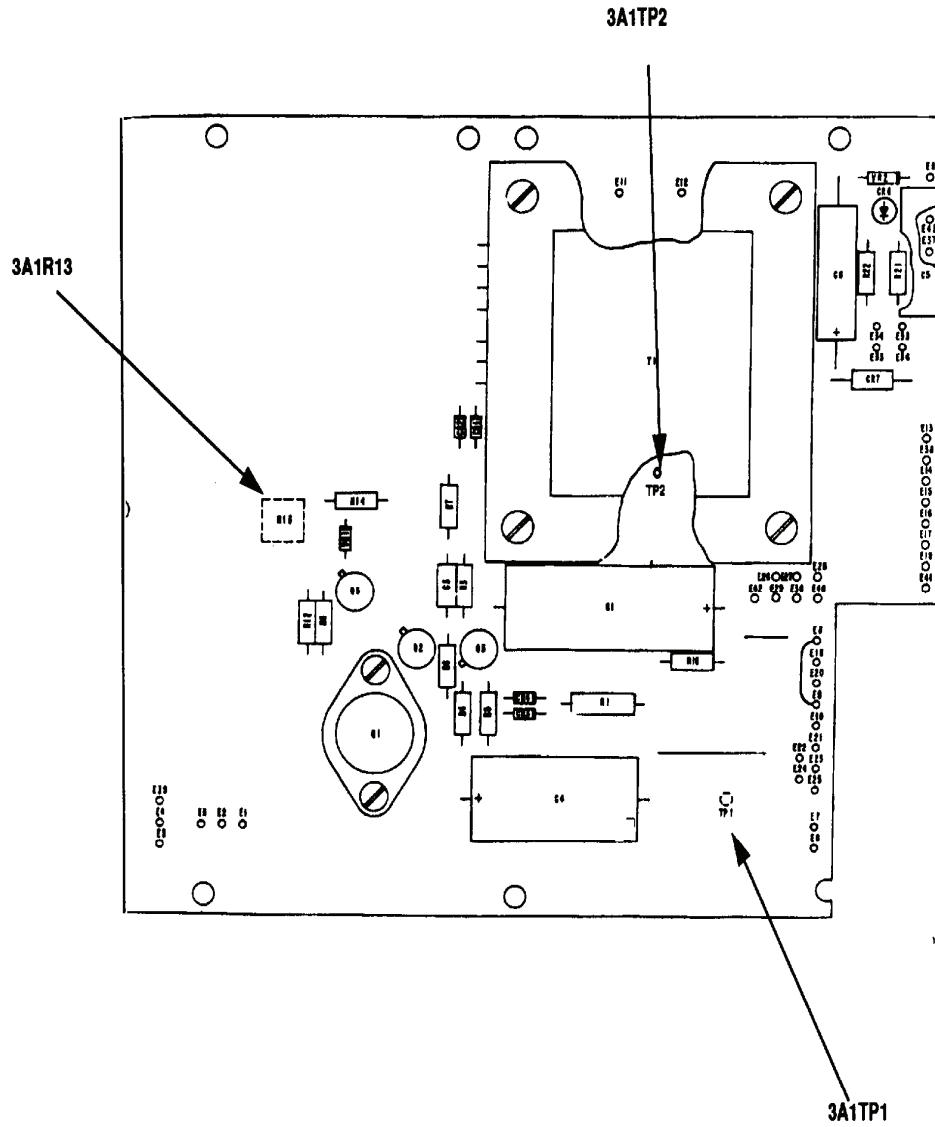

Figure 3. Regulated power supply 3A1 - location of parts.
**a. Performance Check.** Connect digital multimeter positive lead to 3A1TP1 (fig. 3) and connect negative lead to 3A1TP2 (fig. 3). If digital multimeter does not indicate between +14.49 and +14.51 V dc, perform **b** (1) below.
**b. Adjustments.** Adjust 3A1R13 (fig. 3) for a digital multimeter indication between +14.49 and +14.51 V dc (ideal 14.50 V dc) (R).